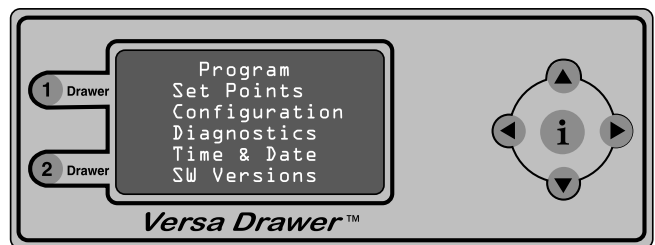

Figure 21. Program Menu (2-Drawer Display Shown)
1. Select the desired function by pressing the UP or DOWN arrows (Figure 21).